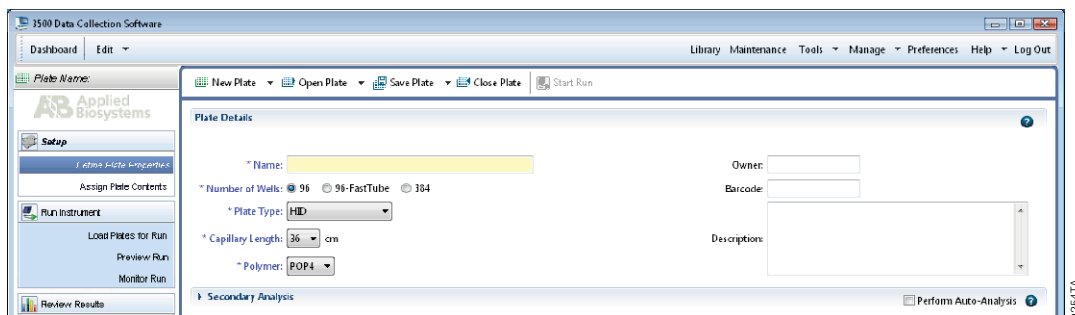

Figure 8. Defining plate properties.
9. Assign a descriptive plate name. Select the plate type “HID” from the drop-down menu (Figure 8).